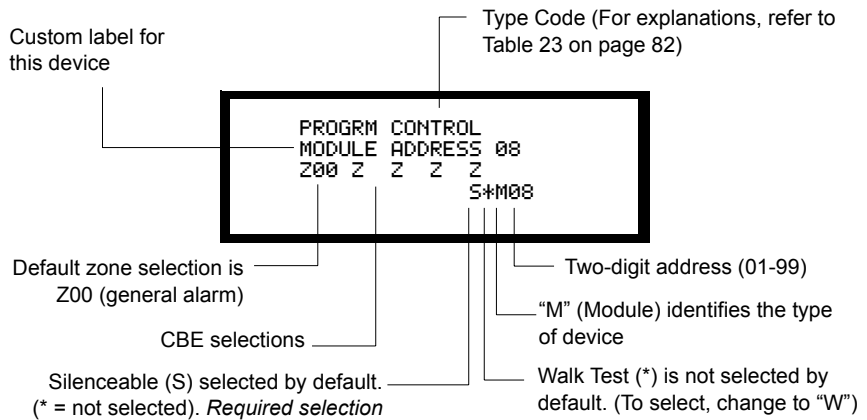

Figure 115 Module Read Status Sample Screen
Figure 114 shows an example of read point for a detector and Figure 115 shows an example of read point for a module.
■ **Module Example** For example, to read the status of a monitor module at address 08: press #, enter the address (08), then press the ENTER key. The control panel displays information about the module as shown in Figure 115: